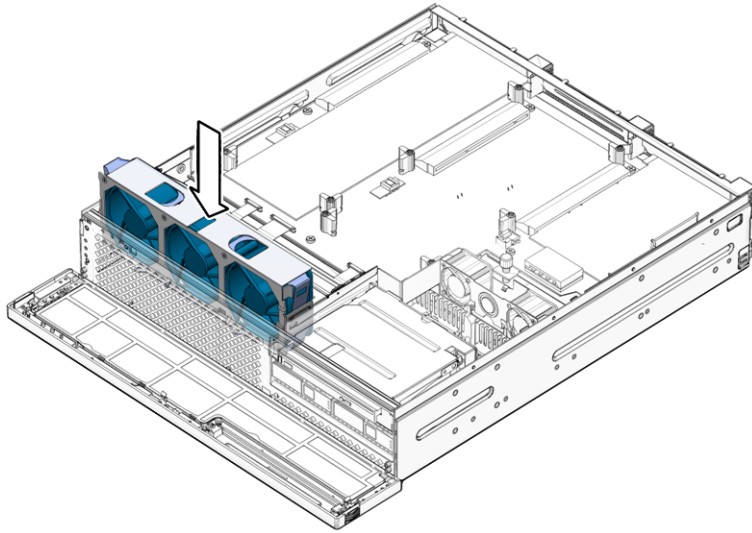

FIGURE 5-10 Lowering the Fan Assembly Into the Chassis
2. Insert your forefinger and thumb into the holes at the top of the fan assembly, squeeze them together, and lower the fan assembly into the chassis (FIGURE 5-10).